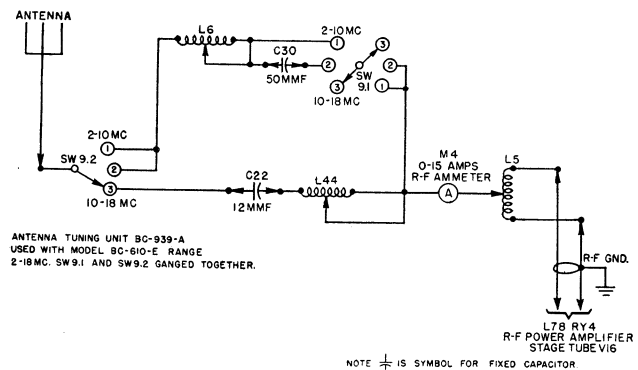

Figure 41. Antenna Tuning Unit BC-939-A, schematic wiring diagram.
37. Antenna Tuning Unit BC-939-A (fig. 41)